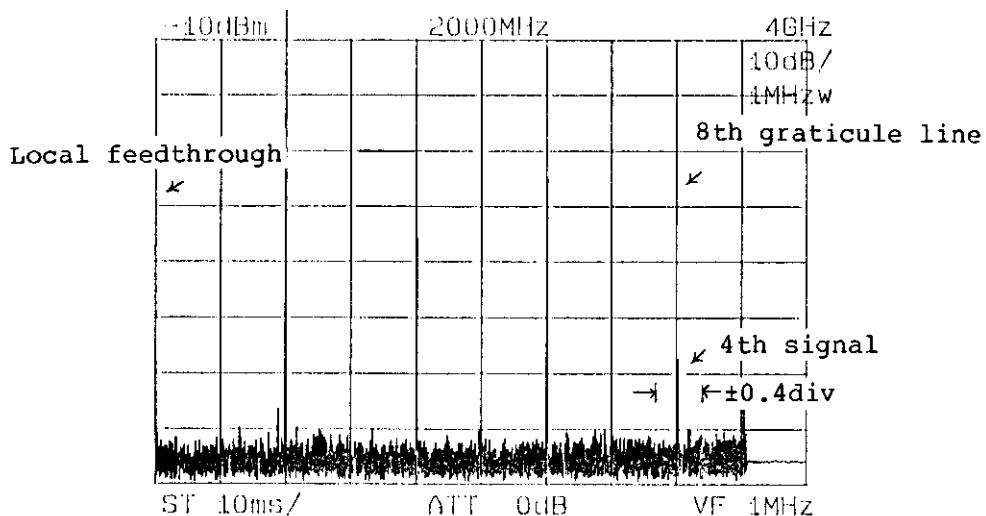

Figure 11-1 Frequency Span 4 GHz Test
Referring to Figure 11-1, connect the output of TR4511 synthesized signal source to the INPUT connector of the spectrum analyzer.
(3) Set the output of TR4511 synthesized signal source to -5 dBm, 800 MHz, modulation off.
(4) Turning the TUNING dial on the spectrum analyzer, adjust the local feedthrough (zero carrier wave) to position it on the leftmost graticule on the display screen. Check that the 4th signal (3.2 GHz) from the local feedthrough (without counting the feedthrough itself) is positioned on or within  $\pm 0.4$  division of the eighth graticule from the left most graticule (without counting the leftmost graticule itself). (See Figure 11-1.)